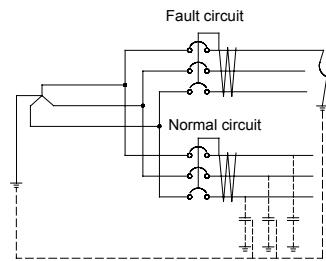

Fig. G-2 Sound circuit operation through ground electrostatic capacity
4) Sound circuit's operation during branch circuit ground as shown in Fig. G-2, if there is a ground at one point of a branch circuit, the ground current can flow on a closed sound branch circuit through ground electrostatic capacity. In this case, the ELCB of the sound circuit could possibly be operated so to prevent this, the sensibility current needs to be selected. d regarding of ground electrostatic capacity.